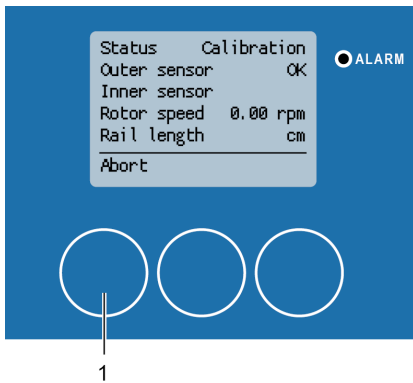
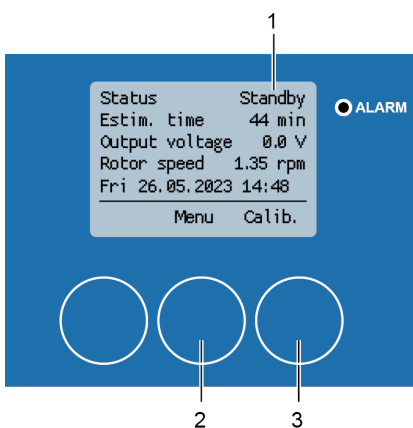

Fig. 118: Abort calibration
Fig. 119: Calibration aborted
1. Press [Abort] (Fig. 118/1) to abort the calibration. The calibration process stops and the status indication shows “Standby” (Fig. 119/1)
2. Press [Menu] (Fig. 119/2) to open the “1 Main menu” menu or [Calib.] (Fig. 119/3) to restart the calibration.
The calibration can be aborted at any time during the calibration process. If the calibration is restarted via [Calib.] (Fig. 119/3), the cleaning carriage initially moves back to its starting position. The calibration then starts again. The calibration is mandatory. Otherwise, no entry screen for cleaning appears and cleaning cannot be started.